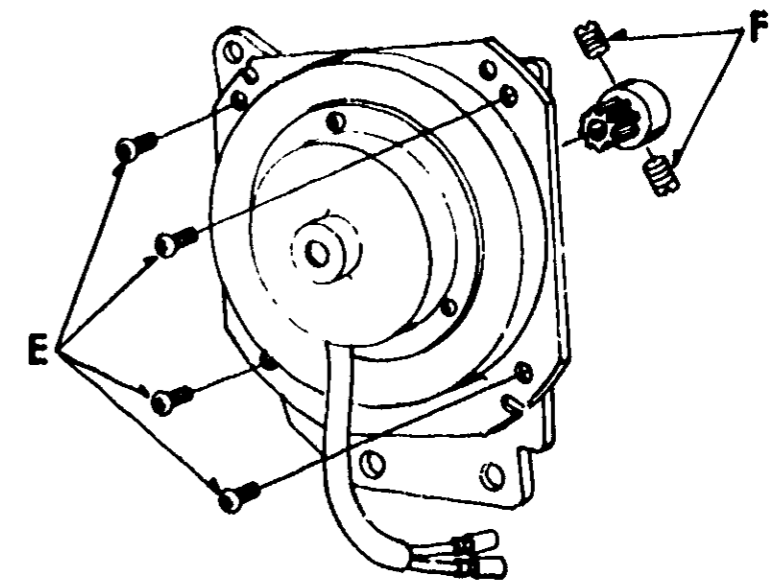

FIGURE 2
2. Remove screws (A) and (B) from mounting bracket (E) of Reed Switch A.
3. Release wires from clamp (G) inside machine arm column.
4. Remove 2 pin plug (Q) (black leads) from receptacle in section (P) of main control box. (See Figure 2)
6. Take off cord guard (F) on back of casting behind control box.
8. Disassemble Reed Switch A from mounting bracket (E), by removing two screws (C) and (D).